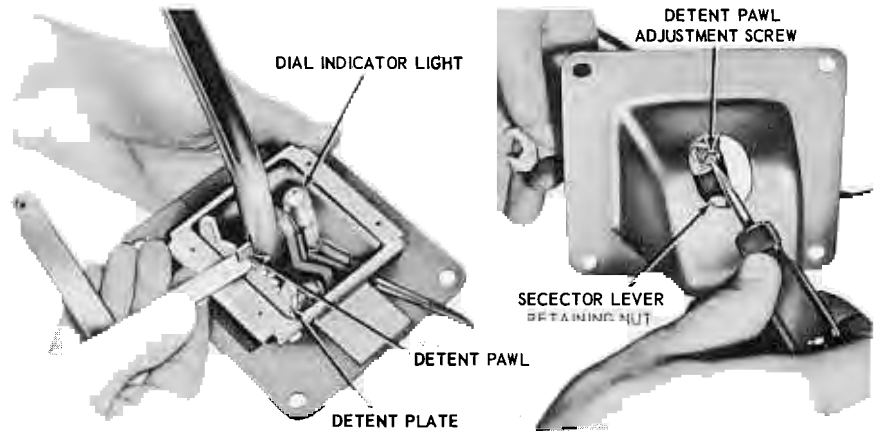

FIG. 19—Selector Lever Detent Pawl Adjustment—Mustang
10. Position the selector lever as shown in Figure 19. With a feeler gauge, check the clearance between the detent pawl and plate. The clearance should be 0.005 to 0.010 inch. If necessary adjust the height of the detent pawl as shown in Figure 19.
5. Disconnect the dial indicator light (Fig. 19).
7. Remove the selector lever to housing attaching nut (Fig. 19). Remove the lever from the housing.
11. Position the selector lever as shown in Figure 19. With a feeler gauge check the clearance between the detent pawl and plate. The clearance should be 0.005 to 0.010 inch. If necessary adjust the height of the detent pawl as shown in Figure 19.